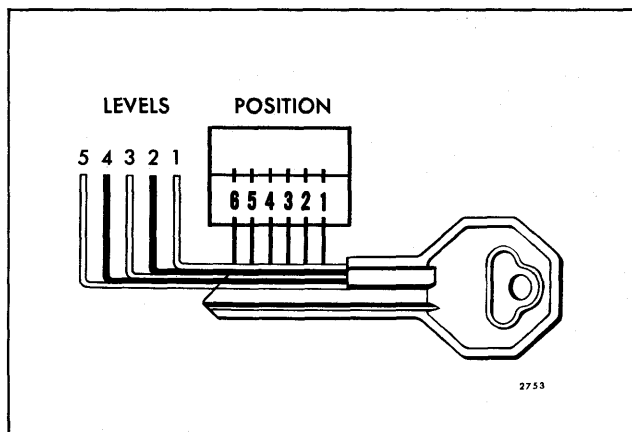

Fig. 1-5—Key Code Diagram
Key code numbers are stamped on the "knockout" plug in the key head and on the lock cylinder housing (to facilitate replacement or duplication of key). After the code number has been recorded by the owner, the plugs should be knocked out of the key head. From these numbers, the lock combination can be determined by use of a code list (available to owners of key cutting equipment from equipment suppliers). If key code numbers are not available from records or from the "knock-out" plug, lock combination (tumbler numbers and position arrangement) can be determined by laying the key on the diagram in Figure 1-5.
After the special code has been determined, either from the code list or the Key Code Diagram (Fig. 1-5) cut a blank key to the proper level for each of the six tumbler positions, and check the key in the lock cylinder. The new key should agree with the combination opposite the code number in the code list.
- a. Lay the key on the Key Code Diagram (Fig. 1-5) with the key outlined by the diagram as accurately as possible.